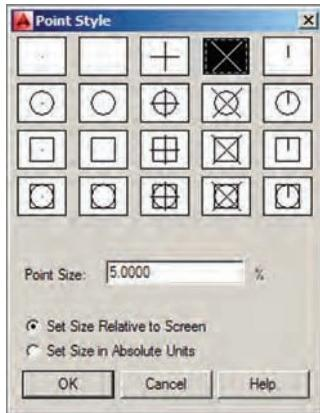

FIGURE 2.20 Changing the point style so that points are more visible
3. You will use preexisting points as guides in drawing the burners. However, the points are difficult to see right now because they are represented as single pixels. Expand the Utilities panel on the Home tab and select Point Style or type **PTYPE** and press Enter. In the Point Style dialog box, select the X icon and click OK (see Figure 2.20).